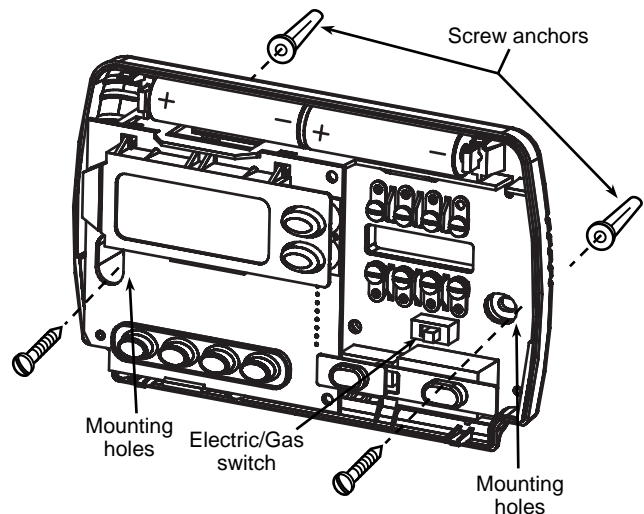

Figure 1. Thermostat Base
This thermostat is configured from the factory to operate a fossil fuel (gas, oil, etc.) and forced air system. It is configured correctly for any system that DOES NOT require the thermostat to energize the fan on a call for heat. If your system is an electric heat system that REQUIRES the thermostat to turn on the fan on a call for heat, locate the **GAS/ELECTRIC switch** on the back of the thermostat (see fig. 1) and switch it to the **ELECTRIC** position. This will allow the thermostat to energize the fan immediately on a call for heat. If you are unsure if the heating system requires the thermostat to control the fan, contact a qualified heating and air conditioning service person.
5. Fasten base loosely to wall, as shown in fig. 1, using two mounting screws. Place a level against bottom of base, adjust until level, and then tighten screws. (Leveling is for appearance only and will not affect thermostat operation.) If you are using existing mounting holes, or if holes drilled are too large and do not allow you to tighten base snugly, use plastic screw anchors to secure subbase.
If **BATT** is displayed, the batteries are low and should be replaced with fresh "AA" Energizer® alkaline batteries. To replace batteries, install the batteries along the top of the base (see Fig. 1). The batteries must be installed with the positive (+) end to the left.